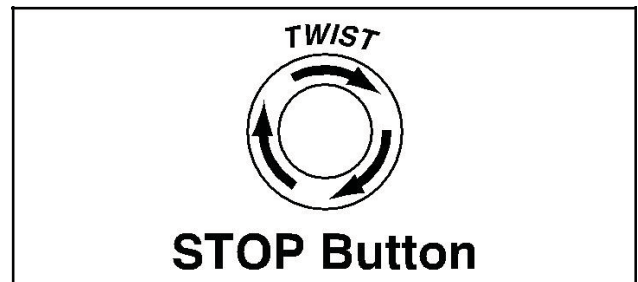

Figure 7. Resetting the switch.
4. Twist Emergency Stop button clockwise until it pops out—this resets the switch so the machine can be started (see **Figure 7**).